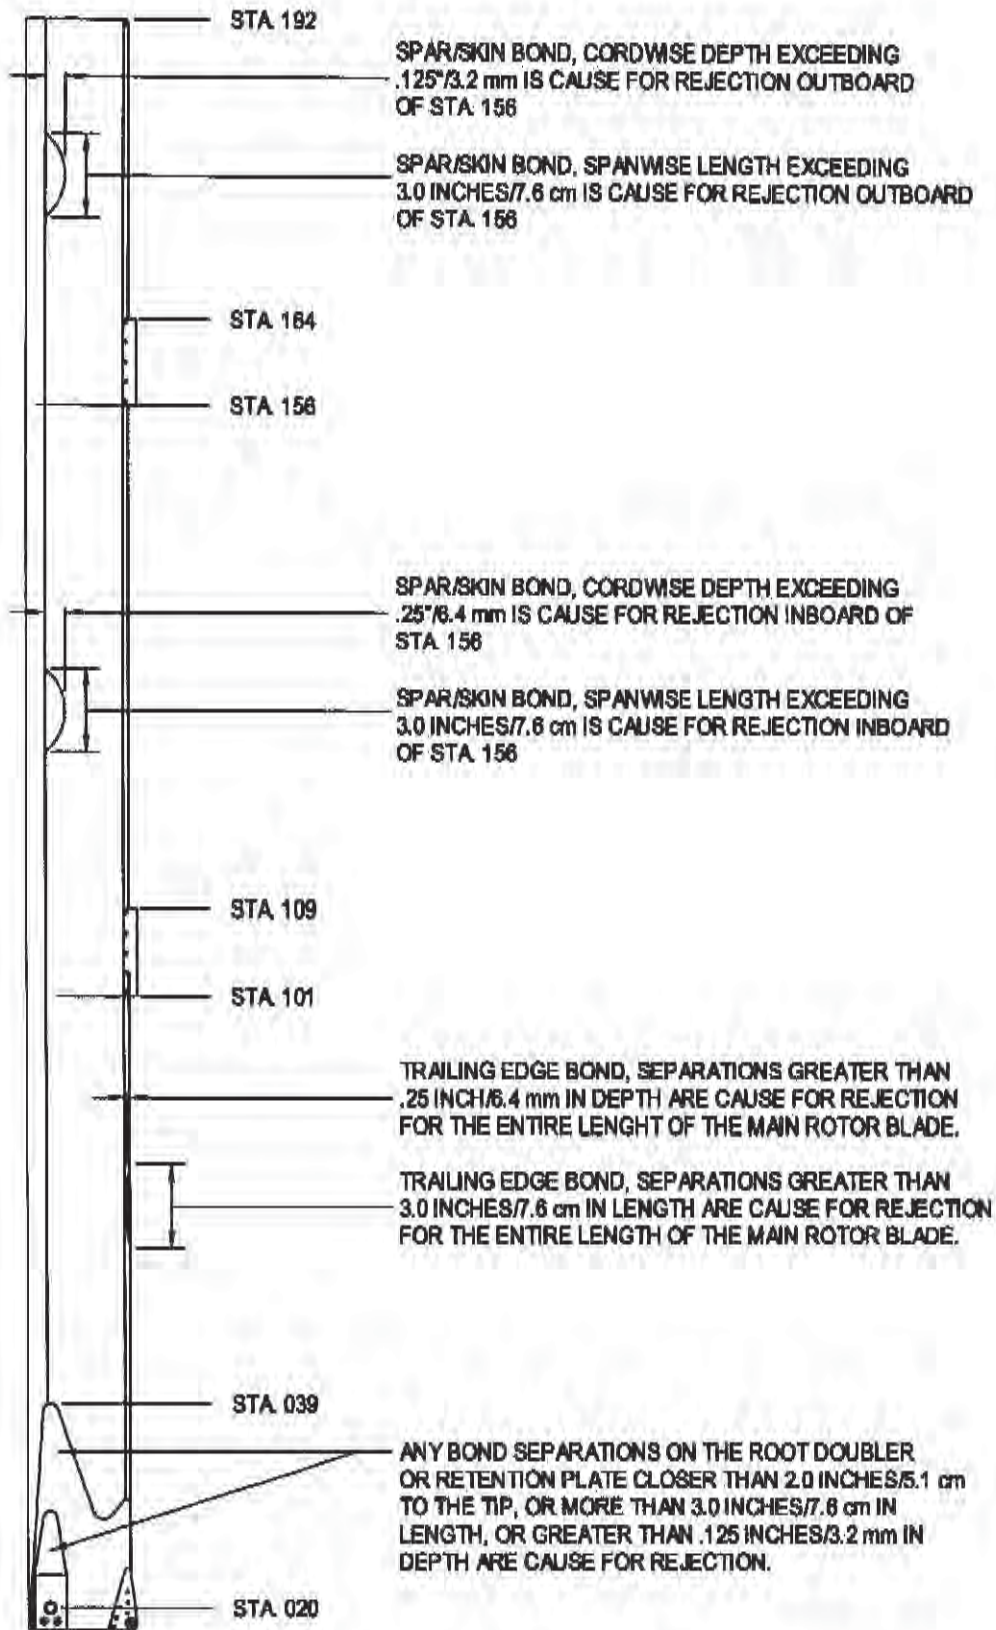

Figure 9-20. Main Rotor Blade Bond Separation Limits
C. Inspect the spar bond lines for raised sections or voids, dark deposits, and bubbly or scaly paint (Figure 9-20). Use the coin tap method to inspect suspect areas for voids.
D. Inspect the trailing edge bond lines for voids or openings, dark deposits, and bubbly or scaly paint (Figure 9-20). Use the coin tap method to inspect suspect areas for voids. Use only plastic shim stock (.001"/.025 mm) for determining the depth of voided areas.
E. Inspect the bond lines at the root doubler and retention plate edges for paint cracking or scaling, dark deposits, and void in the fairing compound (Figure 9-20). Use the coin tap method to inspect suspect areas for voids. Use only plastic shim stock (.001"/.025mm) for determining the depth of the voided areas.
D. Repair voids in the spar to skin bond lines that do not exceed the limits of Figure 9-20 as follows:
- (3) Warm the area to approximately 180-200°F/82-93°C to evacuate any residual moisture.
- (4) Apply corrosion inhibitor and allow to dry for 30 minutes.
- (5) Wipe the area with denatured alcohol, Extreme Simple Green, or equivalent.
- (6) Seal the area with Hysol Type EA 9309.2NA epoxy sealant.
- (7) Refinish the area in accordance with paragraph 9-10, A, above or paragraph 9-11 depending on the paint condition of the rest of the blade.
- (8) Enter into the maintenance log book the main rotor blade serial number and the location of the repair.
- (9) Visually inspect the repaired area for further growth of the bond separation during the preflight check or daily inspection. Inspect the repaired area for further growth of the bond separation using the coin tap method at 25 hour intervals.
E. Repair voids in the trailing edge bond lines not exceeding the limits in Figure 9-20 using the procedure in paragraph 9-10, D, except for the following:
- (1) Inspect repairs outboard of Sta. 101 using the coin tap method at the normal periodic inspection interval.
- (2) Inspect repairs inboard of Sta. 101 using the coin tap method at 25 hour intervals.
F. Repair voids in the root doubler and retention plate edge bond lines not exceeding the limits in Figure 9-20 using the procedure in paragraph 9-10, D.